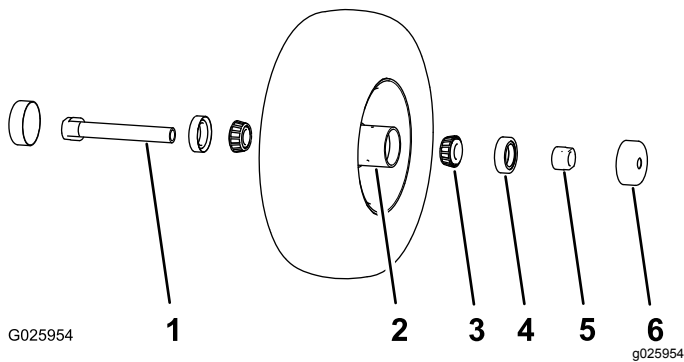

Figure 29
1. Remove the 2 seal guards from the wheel hub (Figure 29).
- Remove 1 of the spacer nuts from the axle assembly in the caster wheel (Figure 29).
Note: Note that thread-locking compound has been applied to lock the spacer nuts to the axle (Figure 29).
- Remove the axle (with the other spacer nut still assembled to it) from the caster-wheel assembly (Figure 29).
- Pry out both bearing seals (Figure 29).
- Remove both bearings and inspect them for wear or damage (Figure 29).
- Install 1 bearing into the hub of the wheel (Figure 29).
- Install the bearing seal into the hub at the bearing (Figure 29).
- Thread the axle nut, with the wrench flats facing outward, onto the end of the axle that is prepared with thread-locking compound (Figure 29).
- Insert the assembled nut and axle into the wheel at the side of the wheel with the new seal and bearing (Figure 29).
- Install the other bearing and new seal into the wheel (Figure 29).
- Install the seal guards over the wheel hub (Figure 29).